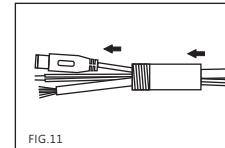
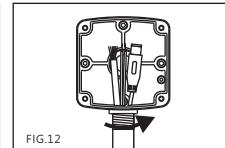

FIG.11
FIG.12
- B. Insert the Ethernet cable, video cable, and power cable through the 1/2"PT tube (FIG.11), and rotate to secure the tube to the holes on the lateral or bottom of the junction box (FIG.12). The conjunction between the tube and the hole must be airtight, and the opening of the hole must point downward.
- B. 將網路線、視頻電纜和電源線穿過1/2" PT管子 (FIG.11)，再將管子旋入底座的側孔或底孔 (FIG.12，管子與側孔兩者之間的結合，必須是防水的；同時側孔也必須在下方)。